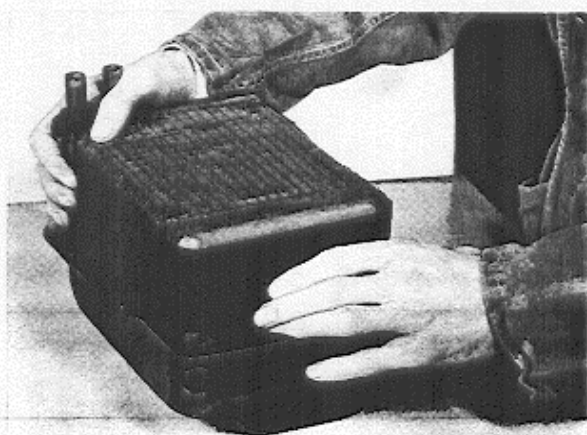

Fig. 22. Fitting the cell system
1. Fit the rubber support buttons of the cell system and the protective cardboard. Fit the cell system, see Fig. 22.